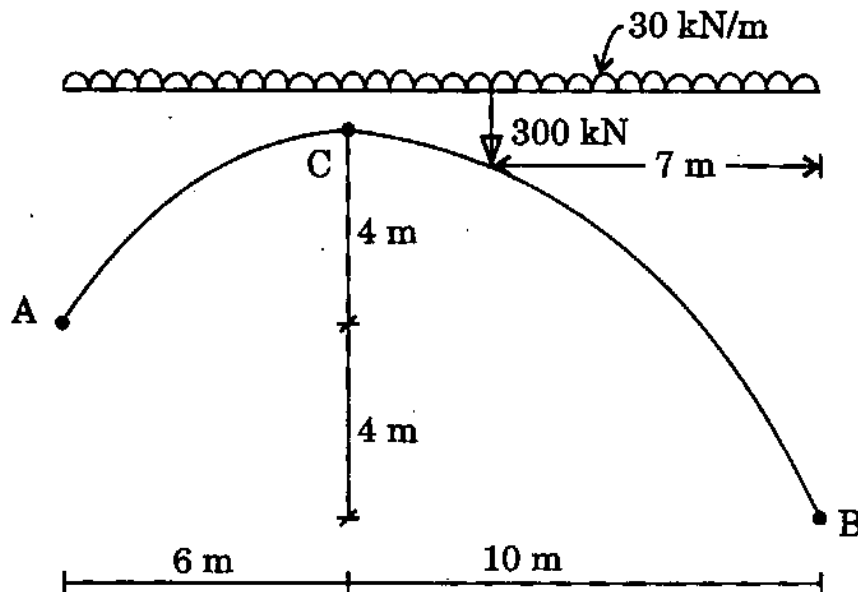

Figure 7
- (c) A 3-hinged parabolic arch of 16 m span has its abutments A and B at a depth of 4 m and 8 m respectively below the crown C. It is loaded as shown in Figure 7. Determine the horizontal thrust and the vertical reactions at the supports.